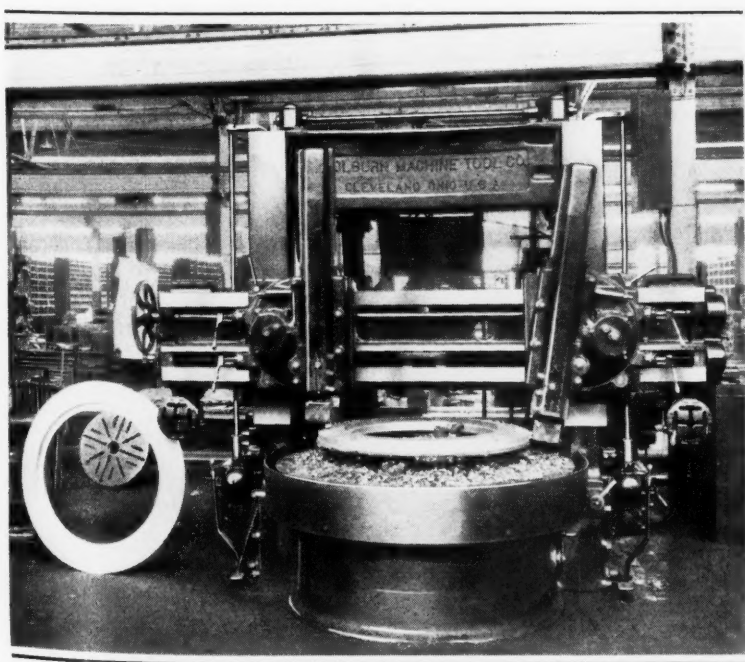

Fig. 10. Colburn Vertical Boring and Turning Mill Equipped for Taper Turning
Fig. 10 shows a Colburn machine, with single lever control for feed and traverse, arranged to cut a taper with the left-hand head having a horizontal angle of 7 degrees 59 minutes. Simultaneous feeds are obtained by driving the bar feed-rod from the saddle feed-screw with reduction gears on the end of the cross-rail. The bar feed is thus varied relative to the saddle feed and the required taper is cut with the bar vertical. The bar can be swiveled 45 degrees, giving a range of horizontal angles, according to Formulas (6) and (7), between 5 degrees 10 minutes and 8 degrees 3 minutes with the same reduction gears. With the right-hand bar swiveled 8 degrees 37 minutes from the vertical, a horizontal angle of 81 degrees 23 minutes is cut with the bar feed.